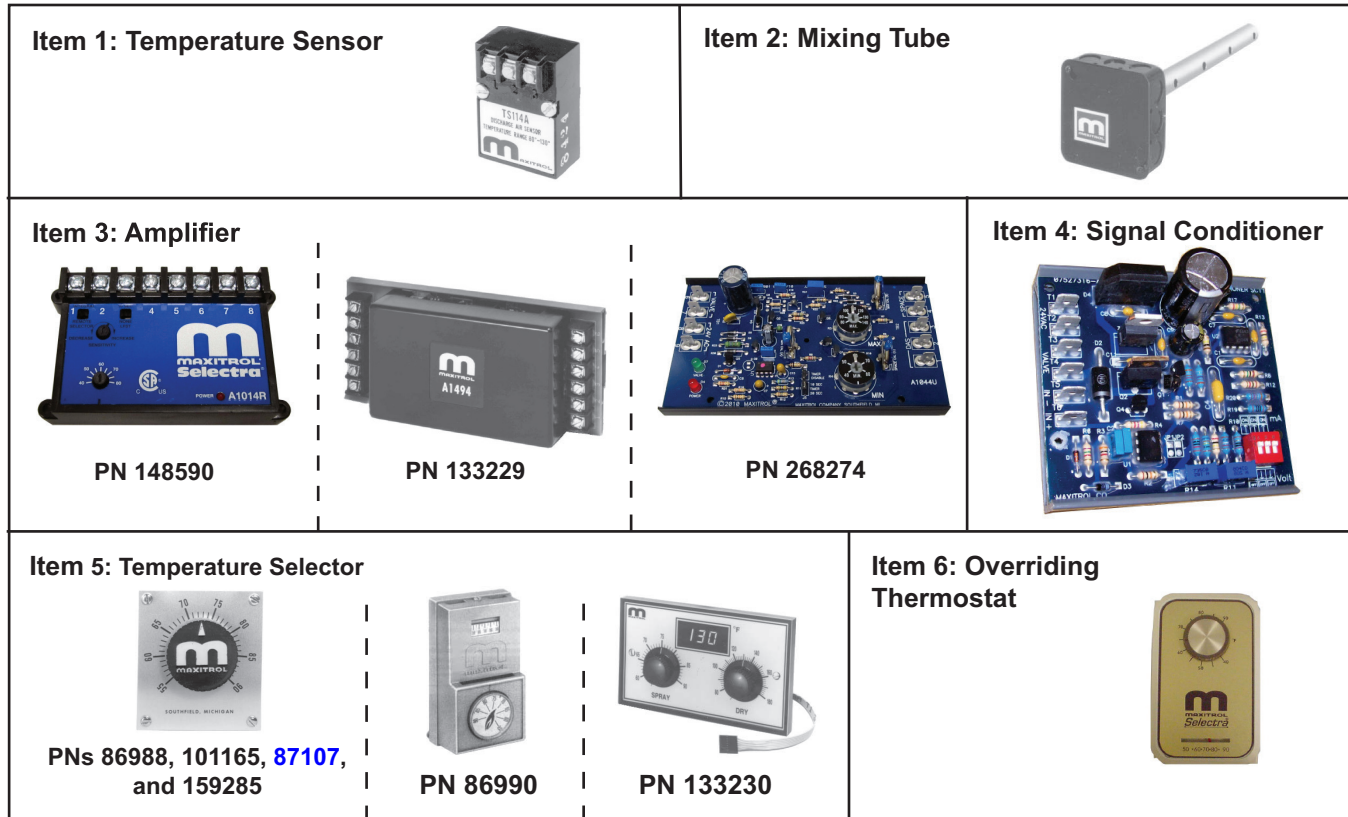

Figure 9. Modulating Gas Control Components (Refer to Table 18)
- When replacing a temperature sensor (item 1) on a Maxitrol MV-9 system (option AG33), check the model number on the sensor. PN 119617 or 194160 is used on units manufactured *after* JAN 1992. PN 87041 is used on units manufactured *before* FEB 1992.
- To replace the amplifier (item 3):
- Modulating gas control components are listed in **Table 18** and shown in **Figure 9**.